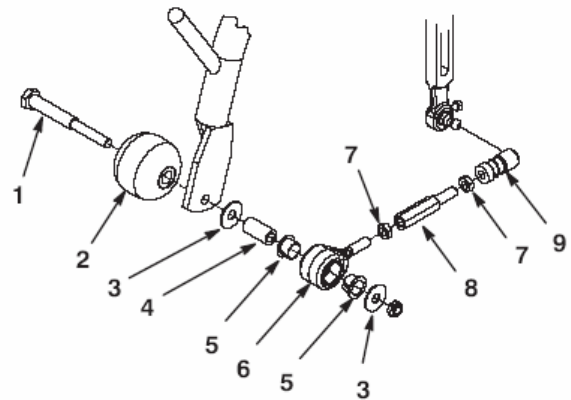

Figure 5
3. Thread a nut onto the new pull link and pull link extension (Fig. 5).
5. Mount the anti-scalp roller, pull link assembly w/nylon bushings, spacer and (2) washers to the left end of the carrier frame with a capscrew and locknut (Fig. 5). Make sure the nylon bushings are in the pull links and the washers are positioned as shown in figure 5.
8. Slide the sleeve back on each ball joint receiver and hook the receiver onto the cutting unit groomer ball stud (Fig. 5).
10. Adjust the pull link extension so the clearance between the lip of the grass basket and the reel blades or the front shield is 1/16 to 1/8 inch. (Fig. 5).